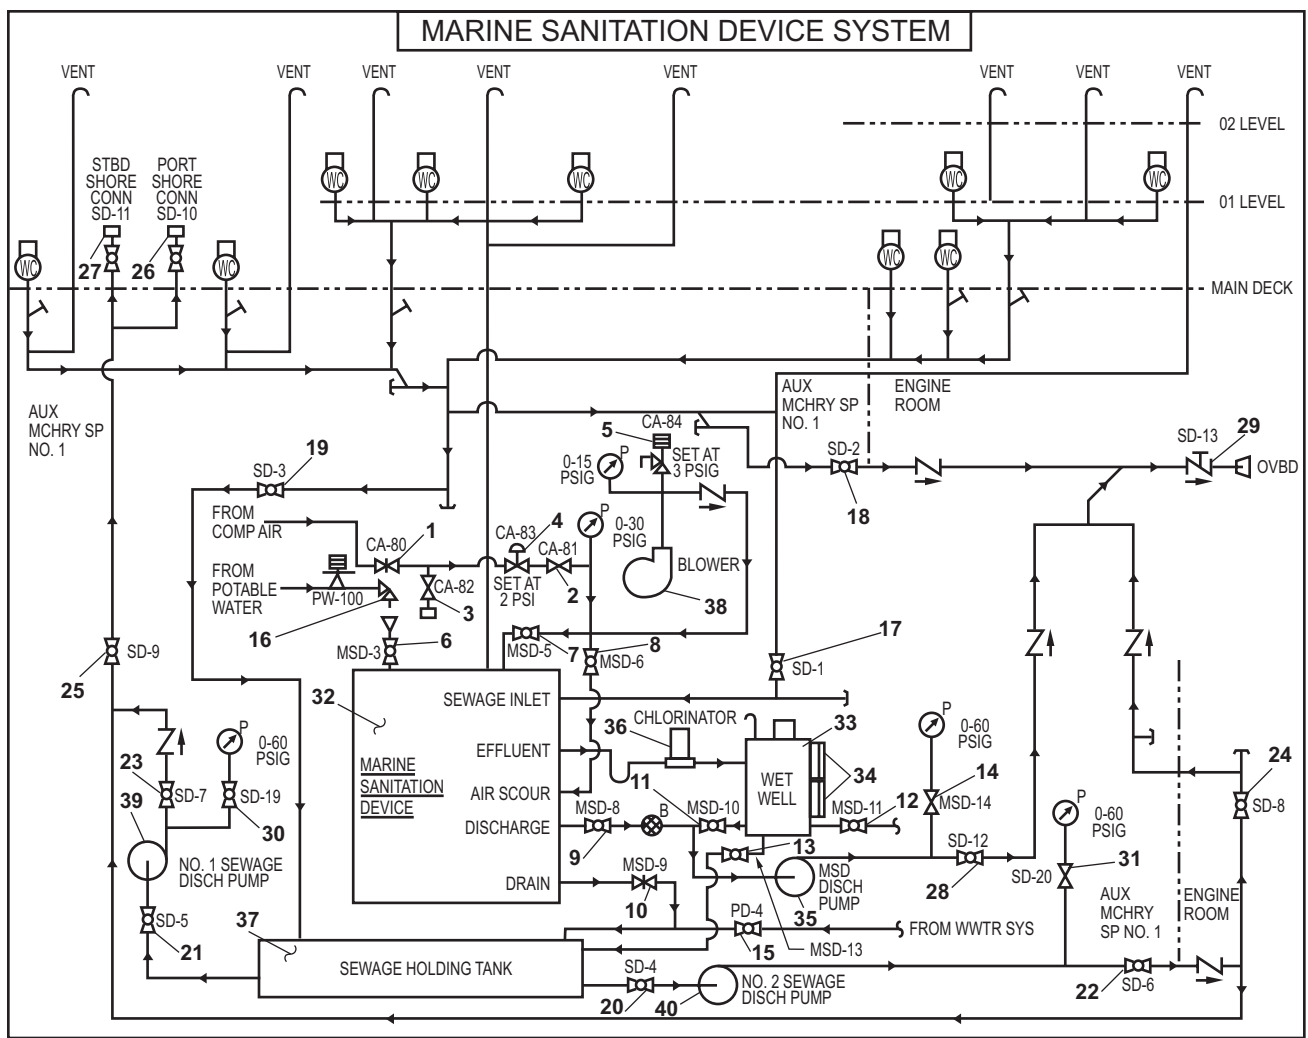

Figure 3. MSD System Schematic
3. Align the valves for the MSD to operate under usual conditions as specified in figure 3 and table 1.
4. OPEN MSD-3 POTW FILL TO MSD ISLN (figure 3, item 6) and PW-100 POTW ISOLATION (figure 3, item 16) valves and fill the media tank (figure 3, item 32) with potable water. Fill the media tank until the water in the wet well (figure 3, item 33) reaches a level halfway up the wet well sight glass (figure 3, item 34).